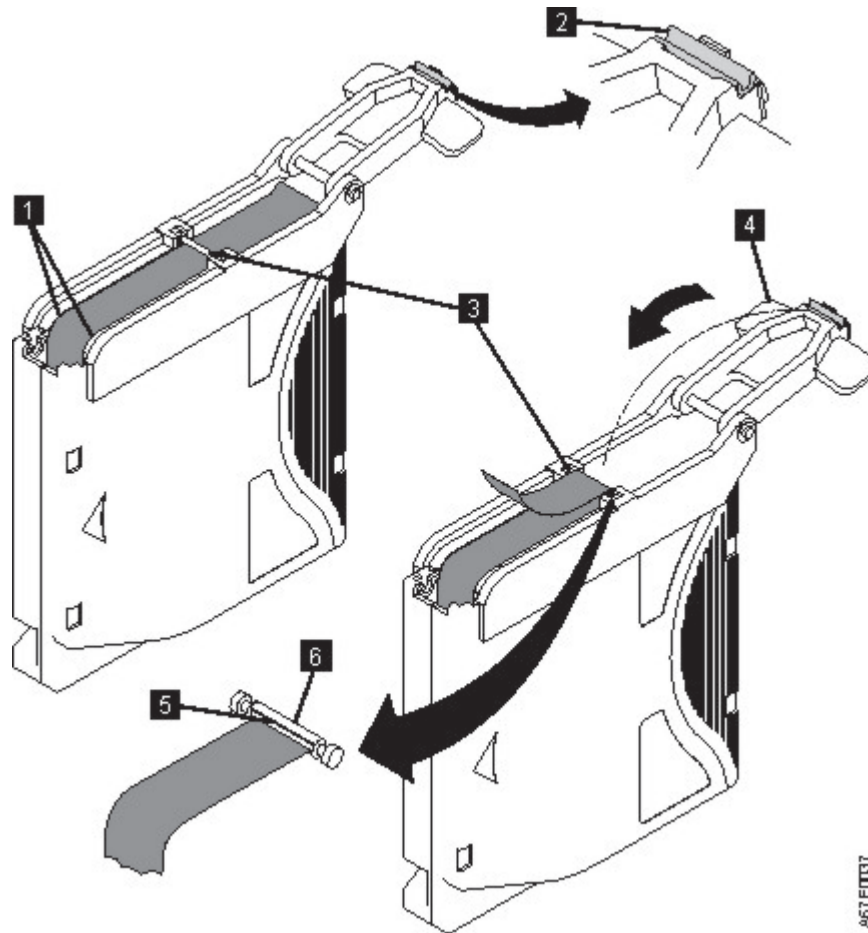

Figure 109. Attaching the leader pin to the tape
7. Position the tape in the alignment groove of the leader pin attach tool (see 1 in Figure 109 on page 238).
8. Place a new C-clip into the retention groove (2 (Figure 109 on page 238) on the leader pin attachment tool and make sure that the clip's open side faces up.
9. Place the leader pin (from step "6" on page 237) into the cavity (3 (Figure 109 on page 238) of the leader pin attach tool.
10. Fold the tape over the leader pin and hold it with your fingers (see Figure 109 on page 238).